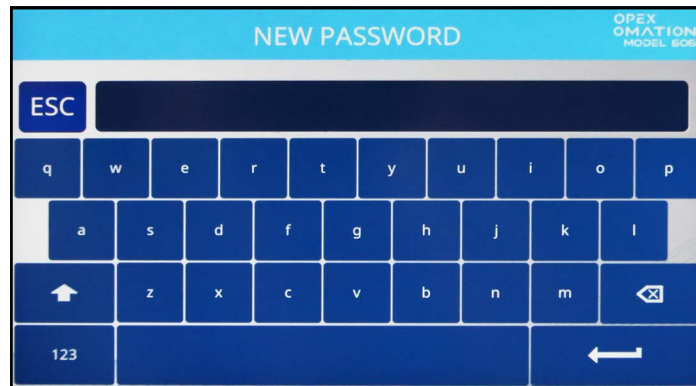

Figure 5-18: Enter Password screen
3. Once the correct current password has been entered, the display automatically changes to the **NEW PASSWORD** screen (Figure 5-18), allowing you to create a new password.